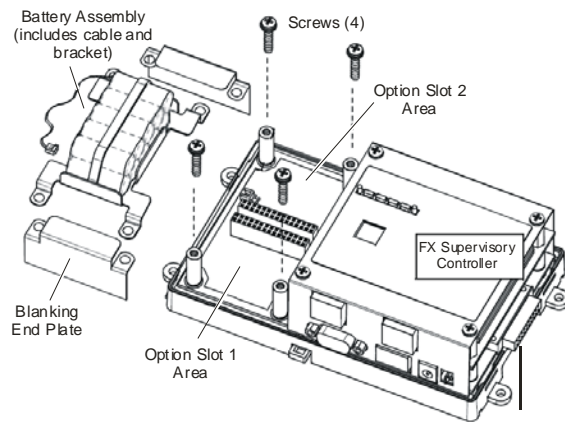

Figure 4: Removing Battery Assembly
For the FX20/FX60/FX70 Supervisory Controllers, up to two LON option cards may be installed. If one LON option card is installed, it operates as LON1, regardless of the slot used. If two LON option cards are installed, LON1 is Option Slot 1 and LON2 is Option Slot 2 (see Figure 4 for locations of option slots).
4. Unplug the battery from the connector on the FX Supervisory Controller (see Figure 4).